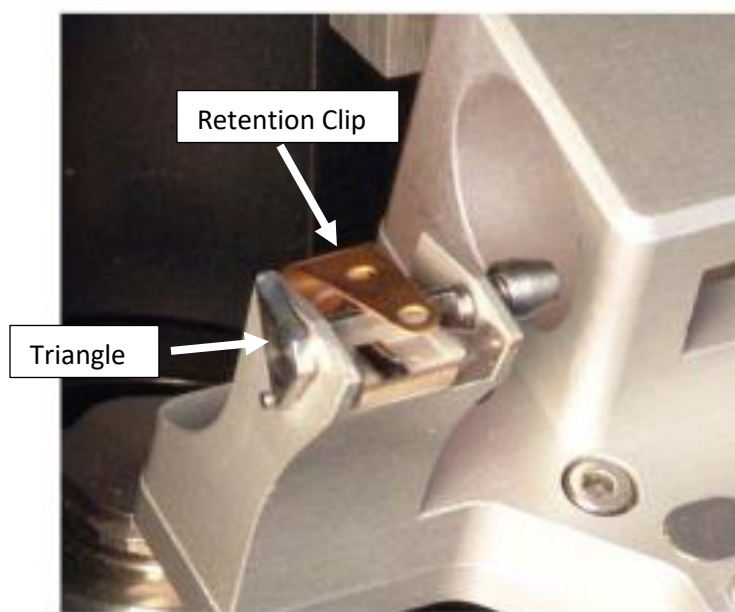

Figure 5: Close up of probe mounting
- Release the probe retention clip by rotating the triangle on the side of the AFM head (Figure 5).